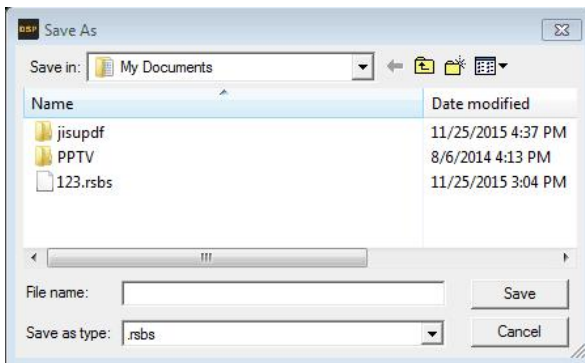

Figure 3.4.11
Step 2: Click "Save as PC Presets File " will bring up the file after item Save As dialog window (Figure 3.4.11).